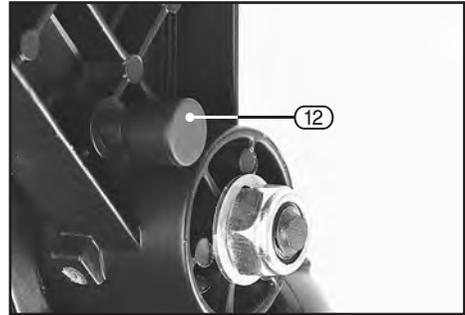

FIG.2
8.3 SAW HEAD LOCKING PIN – FIG.2